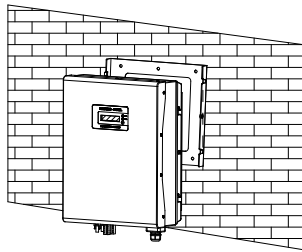

Fig.4 Hang inverter to mounting frame
Step2: Fix the mounting frame as illustrated in the Fig.4 by the screws, then, hang the inverter on the mounting frame.